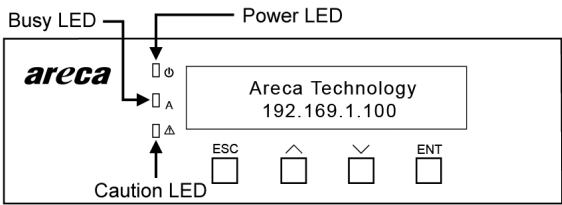

Figure 2-7, LCD Panel LED
There are a variety of status conditions that cause the RAID storage panel monitoring LED to light. The front panel LCD comes with three (3) status-indicating LEDs. The LEDs on the front panel are defined, from top to bottom, Power, Busy, and Caution, as shown in Figure 2-7.